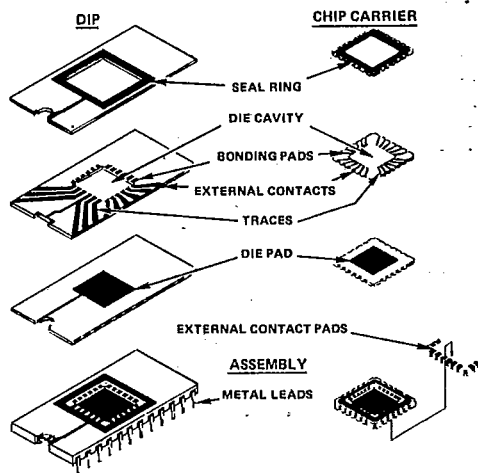

FIGURE 1. EXPLODED VIEW OF CHIP CARRIER AND DIP
Harris Semiconductor offers Leadless Chip Carriers (LCC) as a packaging option on various Digital Integrated Circuits. An LCC is a square or rectangular package for an Integrated Circuit (IC) that is manufactured in the same manner as a conventional side-braze dual-in-line package (DIP). The LCC is comprised of the cavity and seal ring section of a standard DIP and offers the user a means of achieving high density system configurations while retaining the reliability benefits of hermetic IC Packaging. Figure 1 provides a comparison of the construction of an LCC and a conventional side-braze DIP.